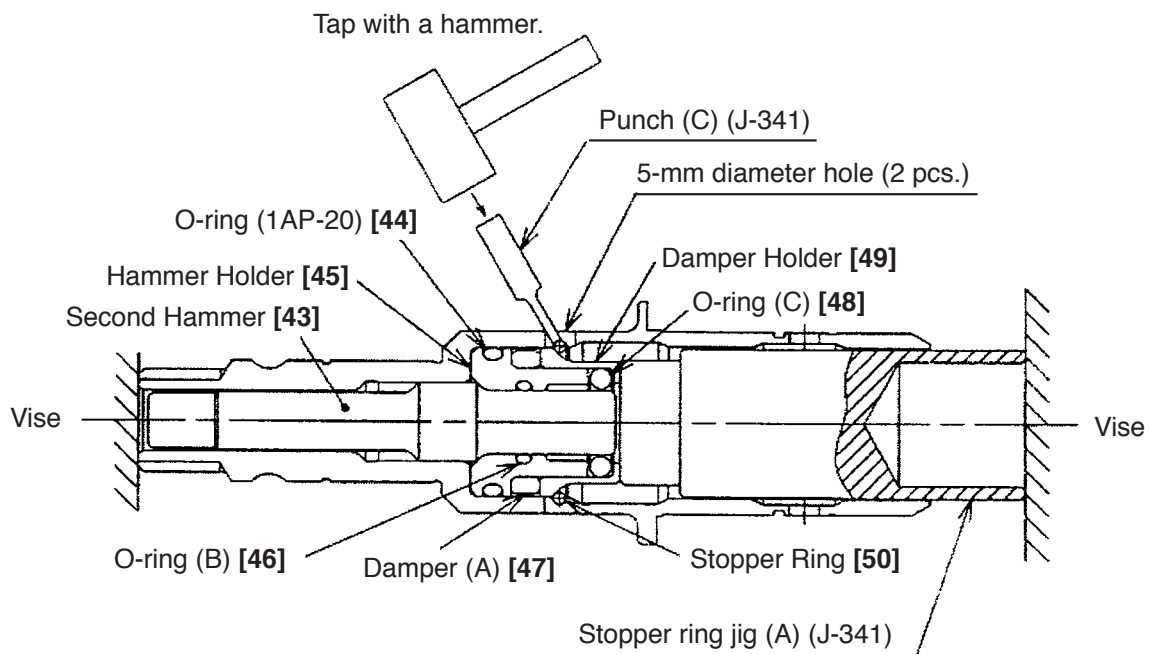

Fig. 22
(6) Removal of the cylinder and the second hammer
Remove the Stopper Ring [50] from the inside diameter portion of the Cylinder [38]. Then the Second Hammer [43], O-ring (1AP-20) [44], Hammer Holder [45], O-ring (B) [46], Damper (A) [47], O-ring (C) [48] and Damper Holder [49] can be removed from the Cylinder [38]. As shown in Fig. 22, insert the no-hole side of stopper ring jig (A) (J-341) into the Cylinder [38] until it contacts the end surface of the Damper Holder [49]. Hold the Cylinder [38] and the end surface of stopper ring jig (A) (J-341) with a vise, and compress Damper (A) [47] (it moves a little when the Stopper Ring [50] is pressed with punch (C) (J-341)). Insert punch (C) (J-341) into the 5-mm diameter hole (2 places) in the Cylinder [38] and tap the outside of the Stopper Ring [50] until the Stopper Ring [50] cannot be seen from the 5-mm diameter hole (2 places) to remove the Stopper Ring [50] from the groove of the inside diameter portion of the Cylinder [38]. Then remove the Cylinder [38] from the vise and pull out the Stopper Ring [50] from the inside diameter portion of the Cylinder [38] with ring puller jig (B) (J-341) being careful not to pop out the Stopper Ring [50]. At reassembly, replace the Stopper Ring [50] with new one as the removed Stopper Ring [50] is deformed. To prevent idle hammering, also replace O-ring (C) [48] with new one at reassembly.